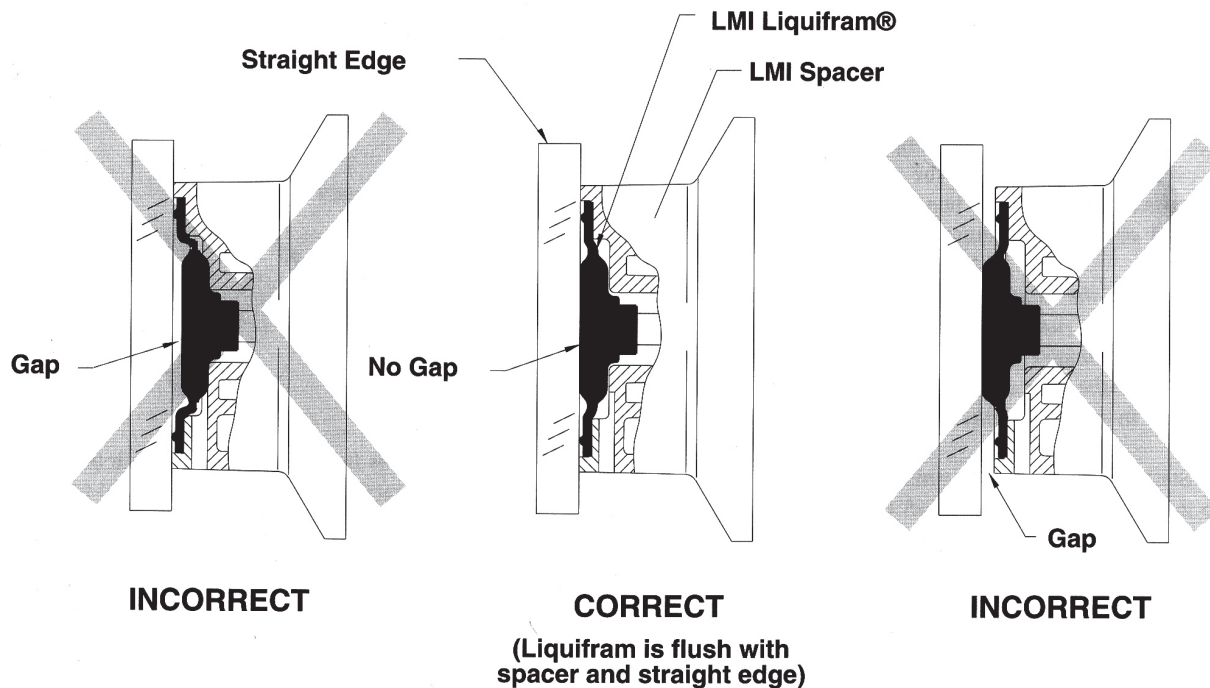

figure 1
- Grasp the outer edge of the Liquifram® and adjust by screwing it in or out so that the center of the Liquifram® is flush with the outside of the spacer edge (see figure 1).
- Once the Liquifram® is properly positioned, remount the pump head to the spacer using the four (4) screws. Tighten in a crisscross pattern. After one week of operation, recheck the screws and tighten if necessary.